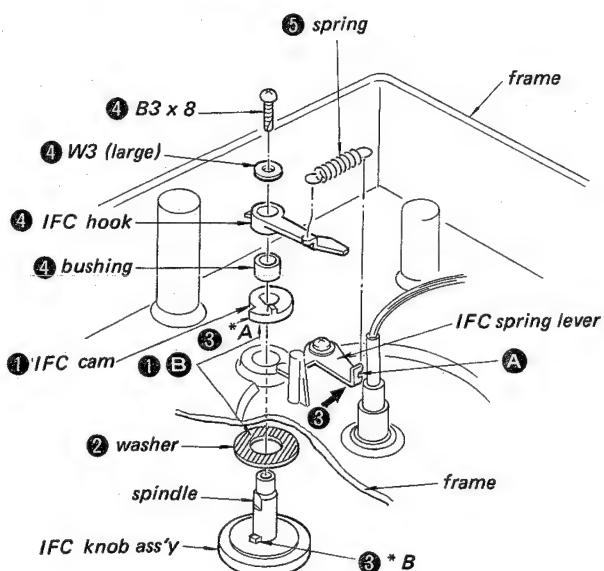

Fig. 2-10
- ① Smear the shaded portion **B** of the washer and the IFC cam with grease.
- ② Install a washer in the IFC knob ass'y.
- ③ Set the marked point (\*A) of the IFC cam as shown in Fig. 2-10. Install it through the frame and set it with the IFC cam. Be sure that the two marked points (\*A & \*B) coincides. (Place the IFC spring lever in the direction of the arrow when performing this installation.)
- ④ Place the bushing, IFC hook and washer (W3) on the spindle and fasten them with screw B3 x 8.
- ⑤ Connect the IFC hook and the IFC spring lever with a spring and apply a bond at point **A** of the lever.
- ⑥ After the installation has been completed, be sure that the IFC hook moves on its own.